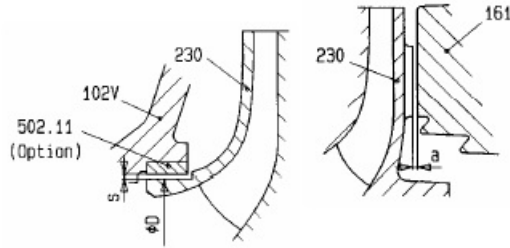

Figure 10: Suction side of impeller (shown on left), Back vanes of impeller (shown on right)
- If the impeller has back vanes check the axial clearance "a" between the impeller (230) and casing cover (161) before you continue the dismantling. Refer to sect. 8.7.1.
- Draw off the impeller (230) with two screw drivers or pry bars (Figure 10). Remove key (940.31).